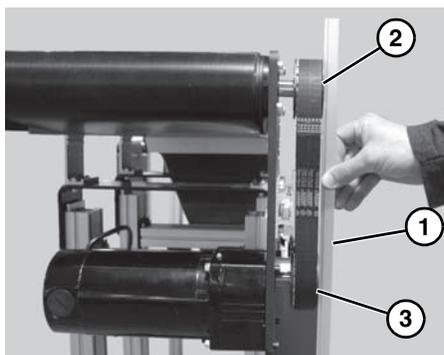

Figure 6
6. Using a straight edge (Figure 6, item 1), align driven pulley (Figure 6, item 2) with drive pulley (Figure 6, item 3).